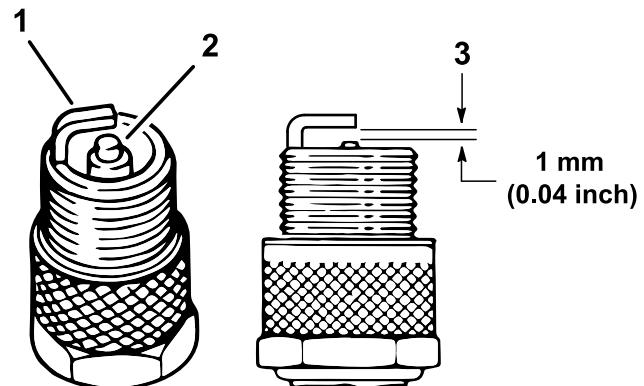

Figure 35
4. Check the condition of the side electrode, center electrode, and center electrode insulator to ensure that there is no damage (Figure 35).
5. Set the air gap between the center and side of the electrodes at 1 mm (0.04 inch) as shown in Figure 35.